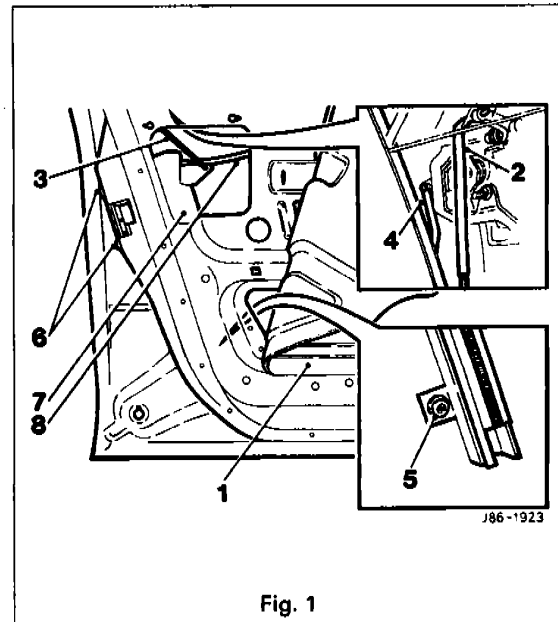

Fig. 1
- Using a suitable plastic knife, cut through the weathershield to door sealant and pull back the weathershield (1 Fig. 1) for access to the door lock assembly.
- Disconnect the door handle link rod (2 Fig. 1).
- Disconnect the door sill button link rod (3 Fig. 1).
- Disconnect the key barrel link rod (4 Fig. 1).
- Undo and remove the lower securing bolt (5 Fig. 1) from the glass frame.
- Undo and remove the door lock assembly securing bolts (6 Fig. 1).
- Displace and reposition the door lock assembly (7 Fig. 1).
- Displace and remove the edge clip from the door handle release cable (8 Fig. 1).